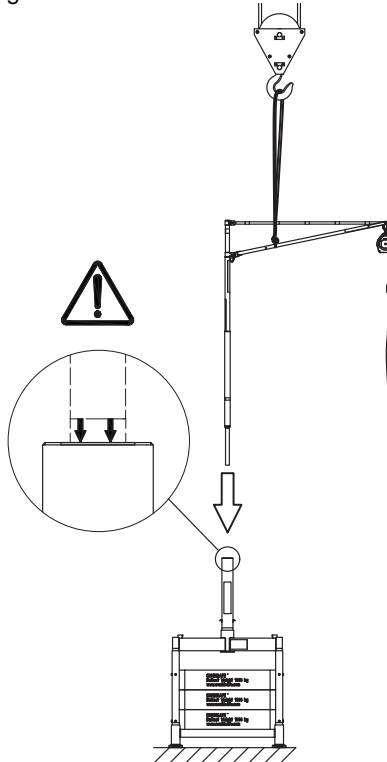

Figure 31. *Placement of the SkyReach unit into Top Column 4.7. Beware of the crane and its movement to avoid injuries.*
11. Use a crane to lift the assembled SkyReach by placing the crane hook to the sling attached to the SkyReach. Lower it down into the Top Column 4.7/SkyReach Adaptor 5.9, see Figure 31. Use the Reach Hook to guide the SkyReach into place if needed. Make sure that the SkyReach is inserted the correct length, please observe the Insertion Marking Label position, see Figure 31.